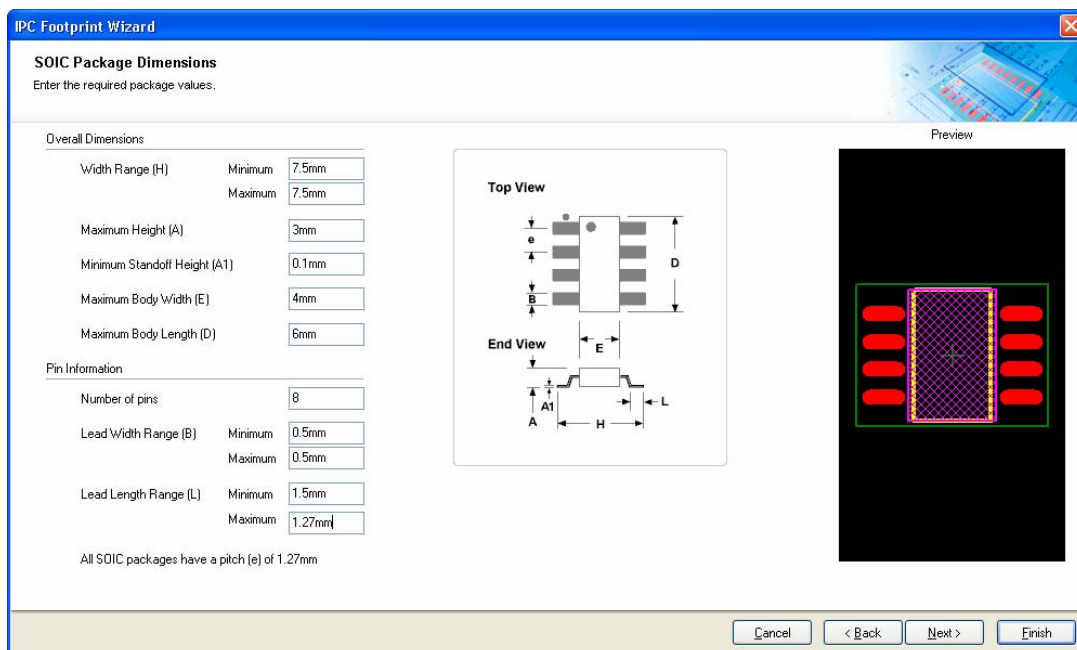

Figure 8. SOIC package dimensions
- Refer to information in Figure 8 for dimensions. Note that it will be created with 8 round-ended pads at this point if we finish the wizard.